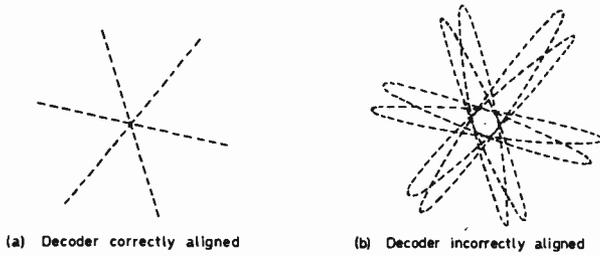

Fig. 4: X-Y oscilloscope display under the same conditions as in Fig. 3 but with the decoder reference oscillator not in lock.
display that will be obtained is shown in Fig. 4 for correctly and incorrectly aligned decoders. Before proceeding further it may be helpful to describe what is appearing on the screen of the oscilloscope.
If, repeating the process, we move on to the instant shown in Fig. 5(c) there will be no output at all from either demodulator because the reference carriers to each demodulator are 90° out of phase. The dots are now coincident at the zero point. The result of all this is that we get a dotted line R-C as shown earlier in Fig. 4(a).
Fig. 5: The dotted lines shown in Fig. 4 (a) are produced as the reference oscillator drifts through one complete cycle. (a) Oscillator reference carriers in correct phase. (b) Both carriers here have drifted away from their correct phases, giving reduced output. (c) When both reference carriers have drifted 90° out of phase there is zero output from both demodulators: the spot is then at the centre of the screen.
- (1) With a colour-bar signal or any pattern with large areas of colour first obtain a normal picture display.
- (2) Connect the X and Y plates of the oscilloscope to the B-Y and R-Y demodulator outputs.
- (3) Disable the a.p.c. loop and the colour killer. Bias back the a.c.c. circuit if the saturation is too high.
- (4) Check and if necessary adjust the reference oscillator for slow slip.
- (5) Adjust the gain of the oscilloscope to give a display which fills about two-thirds of the screen. You should now have the display of Fig. 4 or its equivalent depending upon the colour test pattern.
- (6) Adjust the reference carriers' quadrature condition and the delay line matrix amplitude control to turn all ellipses into straight lines.
(7) Adjust the delay line matrix phase control to swing pairs of lines together to form single lines.
(8) Repeat (6) and (7) as necessary.
(9) Enable the a.p.c. loop and adjust the overall phase for best coincidence of the half-amplitude dots on the yellow/blue axis.